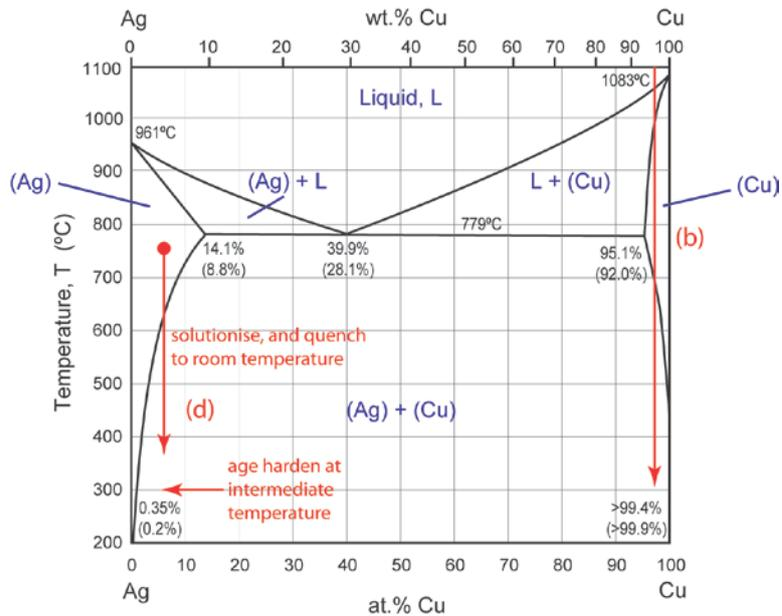

Figure E.29a (solution): Silver-copper Ag-Cu phase diagram
**E.29** (a) See Figure E.29a (solution)
(d) See Figure E.29a (solution). Silver will dissolve up to 8.8 wt% Cu in solid solution (at 779°C). So choose an alloy around 5-10 wt% Cu, and solutionise in the single-phase region. By quenching to room temperature, a supersaturated solid solution is formed. Re-heating to a modest temperature (say 200°C) should then precipitate fine-scale Cu, giving precipitation hardening.